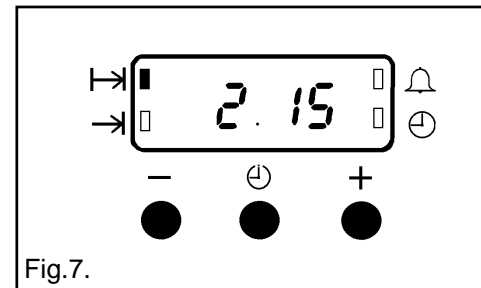

Fig.7.
- iii) To set the length of cooking time, press the Selector control button (  ) until the 'Cook Time' indicator neon is illuminated (  ). Press the increase control ( + ) until the required length of cooking time is displayed, e.g. 2 hrs 15 mins as Fig. 7. If necessary depress the decrease control ( - ) until the correct time interval is achieved.